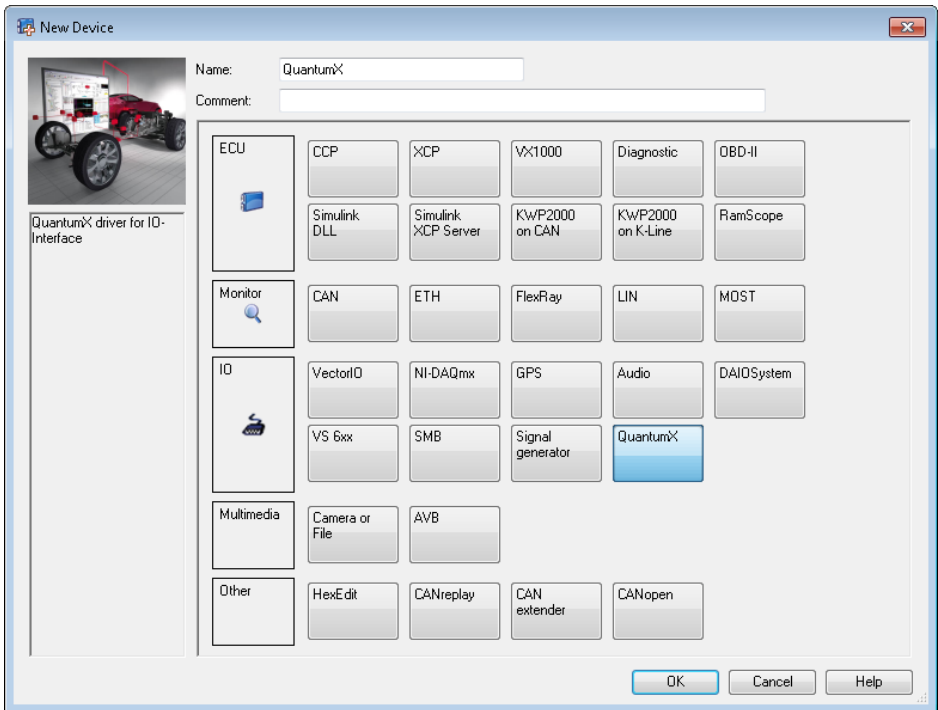

Fig. 6.2 Selecting QuantumX as the device
3. In the next dialog, enter a **Name** for the device type and select **QuantumX** as the device (Fig. 6.2). You also have the option to enter comments for the device type.
2. In the dialog that follows, click on the **QuantumX** entry or on the name you gave to the device type when setting up the MX system in CANape (Section 6, Fig. 6.2, Page 15).